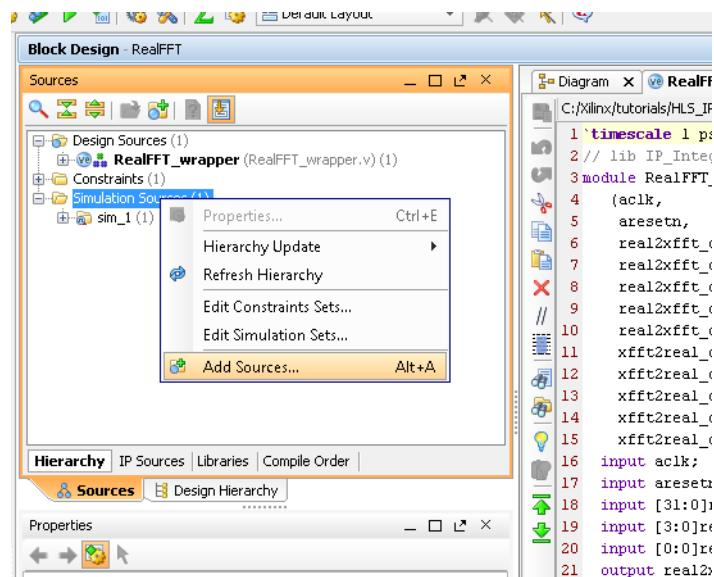

Figure 9-25: Adding Simulation Sources
- Right-click **Simulation Sources** in the Sources tab of the Project Manager pane (Figure 9-25).